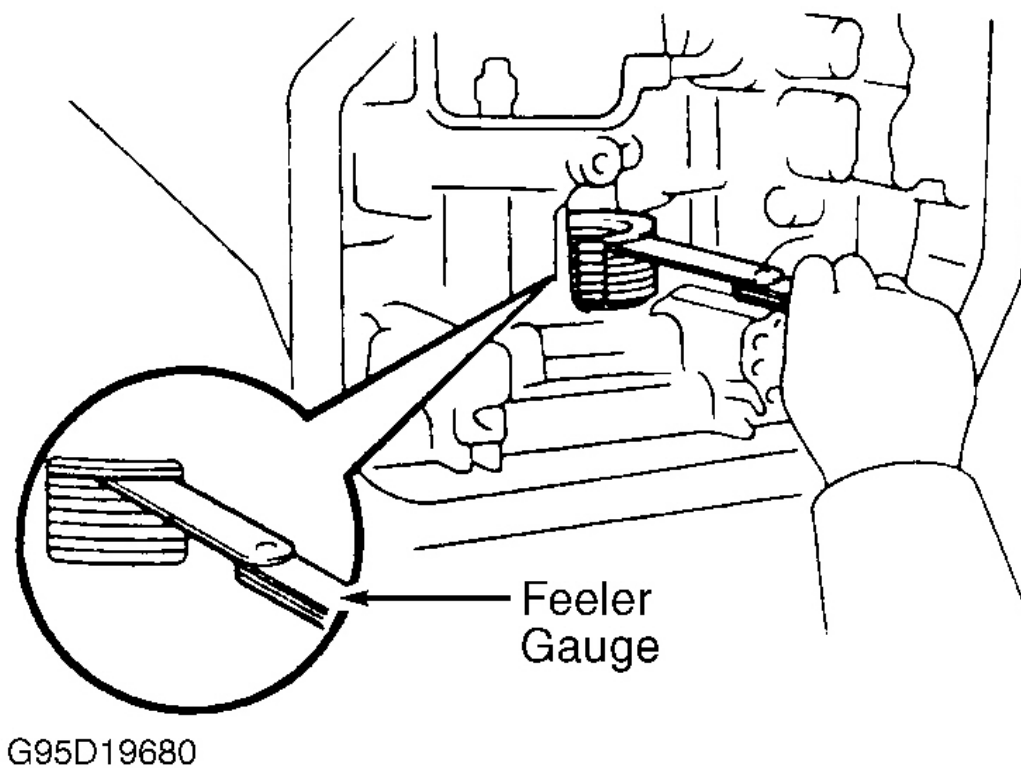

Fig. 18: Check 1st & Reverse Brake Clutch Pack Clearance
12. Remove thrust washers from both sides of planetary gear. Remove rear planetary ring gear with bearing and races. Using feeler gauge, measure 1st and reverse pack clearance. See **Fig. 18** . Clearance should be .047-.093" (1.19-2.35 mm) for A-245E models. Clearance should be .047-.087" (1.19-2.25 mm) for A-247E models.